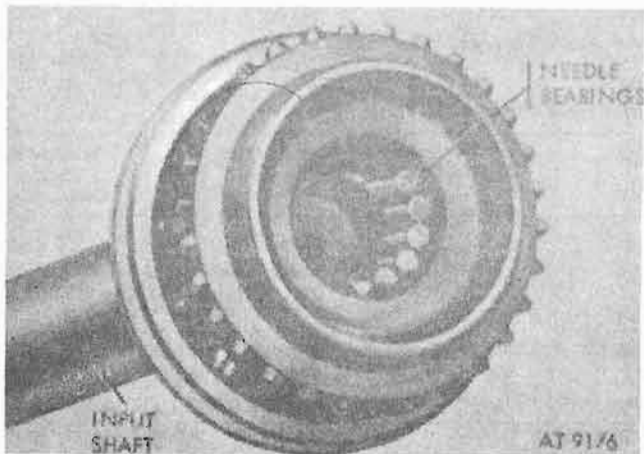

Figure 8-43. Installing needle bearings in input shaft bore.
d. Install 14 input shaft needle roller bearings in shaft bore (fig. 8-43).